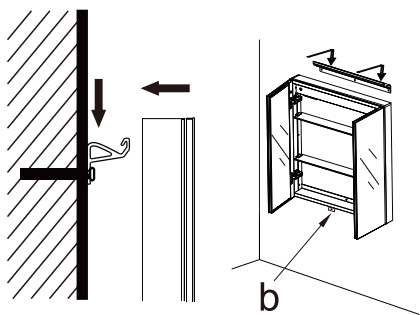
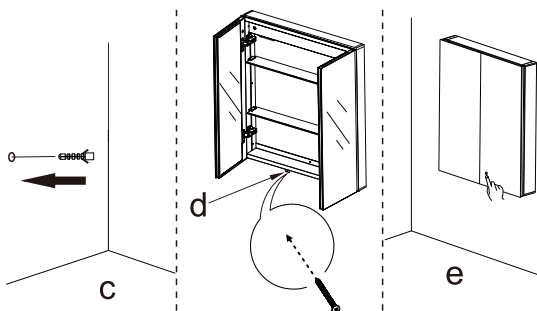

Fig.5
Fig.6
2.3 Install the mirror cabinet on the hanging strip ,see details in Fig.5. Choose right locating place and use pencil to make sign on the wall through the base fixing the hole (b).
2.4 Remove the mirror cabinet, drill the fixing hole in the wall in the marked position, and place the expansion plugs (Fig. 6-C).
2.5 Repeat as shown in Fig.5 to install the mirror cabinet on the wall. Lock the fixing plate at the bottom of the mirror cabinet on the wall with screws (Fig.6-d)
2.6 Finally,switch on the power,and then touch the "switch" sign (fig.6-e)with a finger on the lens to test the products